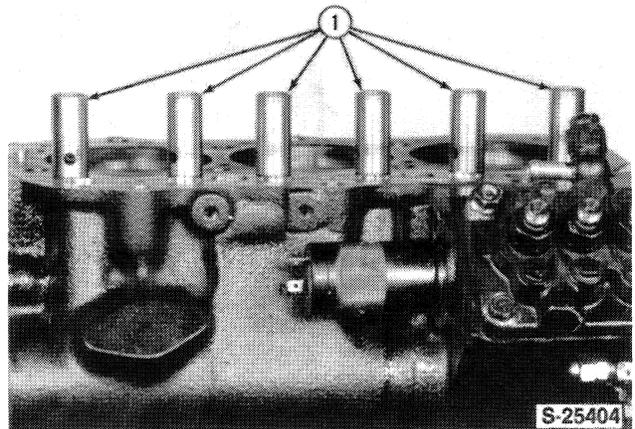

Figure 50
1. Remove the tappets (1) from the top of the block, Figure 50